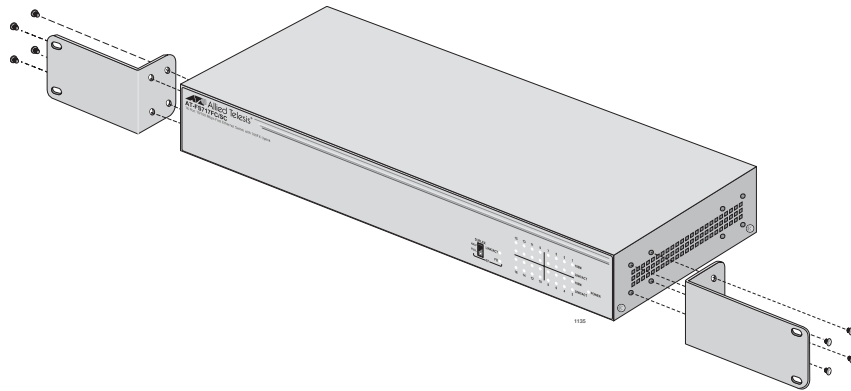

Figure 8. Attaching Brackets for Rackmounting
2. Attach the two mounting brackets (provided) to the sides of the switch using the bracketmounting screws (provided), as shown in Figure 8.